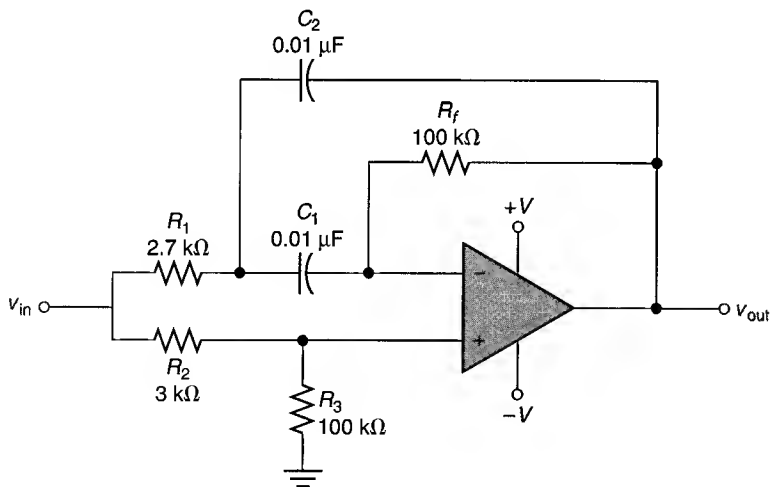

FIGURE 17.56
25. Calculate the values of f_{C1} , f_{C2} , bandwidth, geometric center frequency, and Q for the notch filter in Figure 17.56.